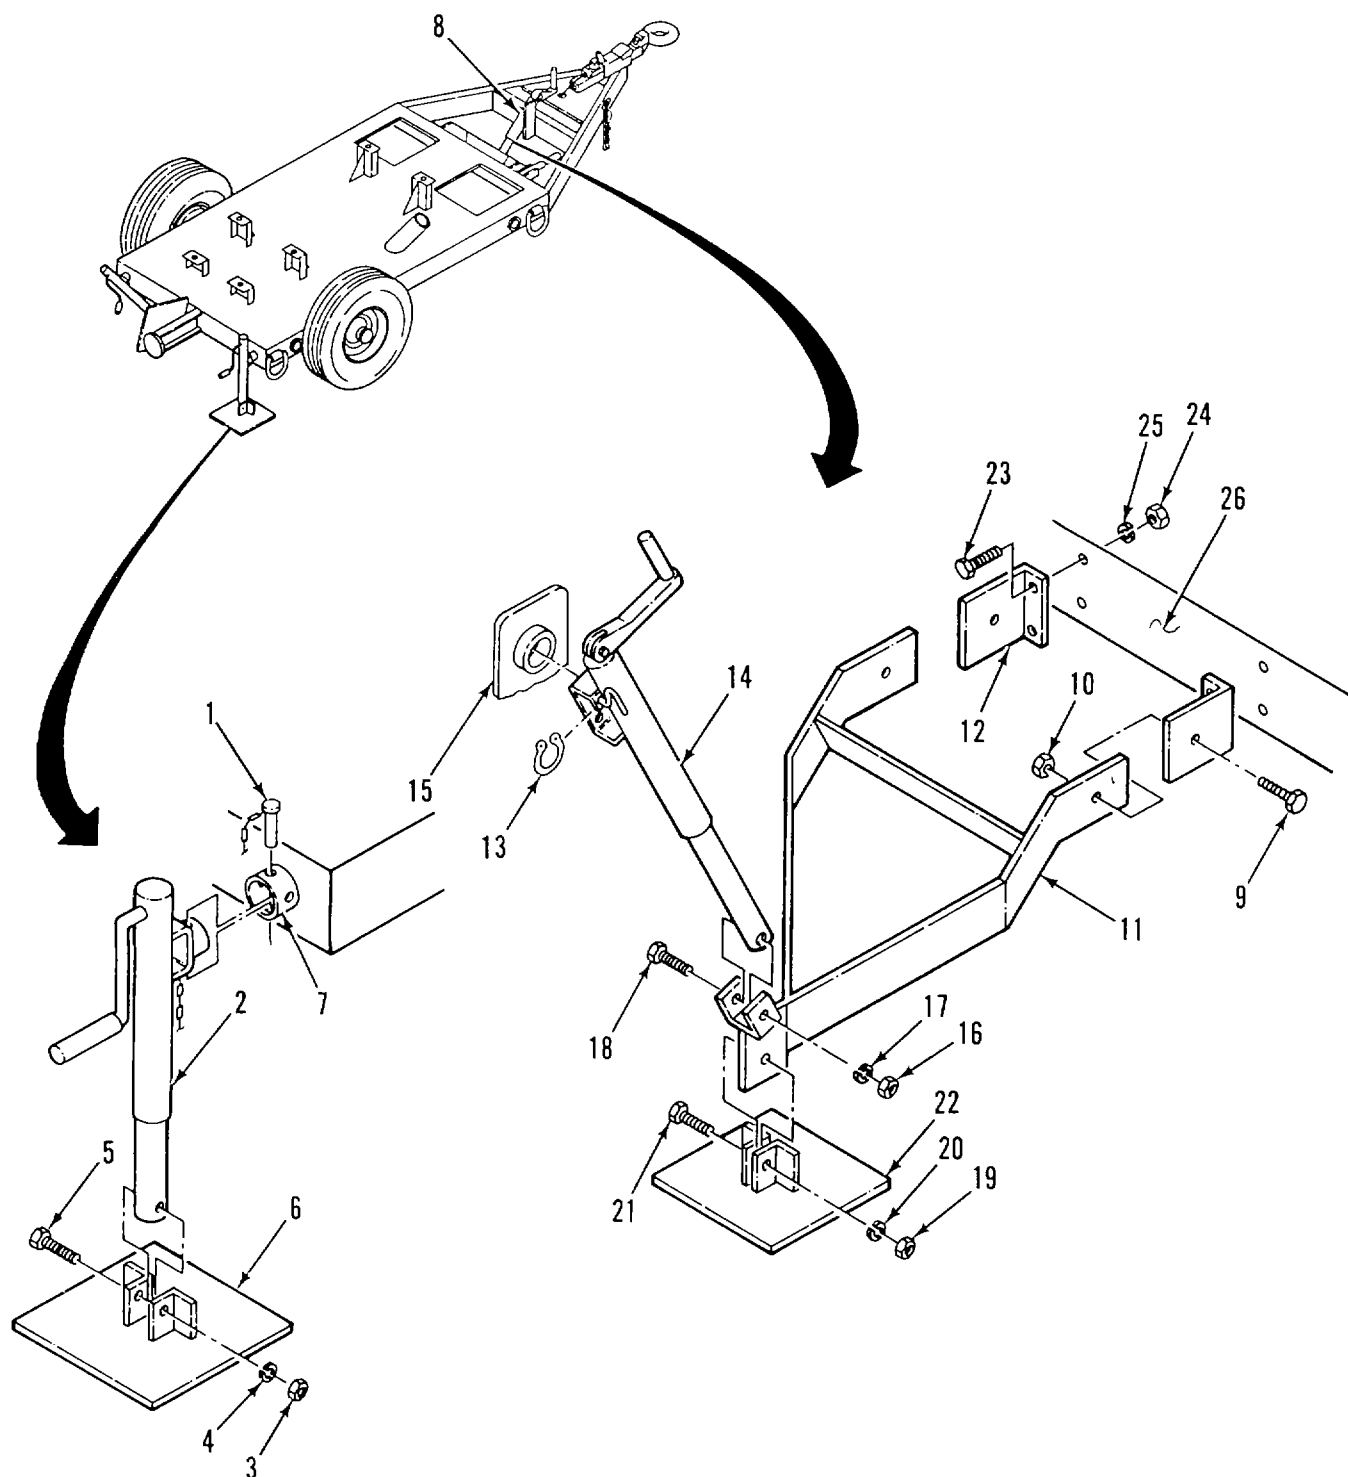

Figure 2-50. Leveling Jacks and Tripod
a. REMOVE. (Figure 2-50)
(1) Remove leveling jacks as follows:
- (b) Drive out pin (1).
- (c) Remove leveling jack (2) from trailer bracket (7).
- (d) Remove nut (3), lockwasher (4), bolt (5) and pad (6) from leveling jack (2). Note position of pad.
(2) Remove tripod jack assembly as follows:
- (a) Remove all weight from tripod jack assembly (8).
- (b) Remove locknuts (9) and bolts (10) holding A-frame (11) to brackets (12).
- (c) Remove snapping (13) holding tripod jack (14) to front jack bracket (15).
- (d) Remove tripod jack assembly (7).